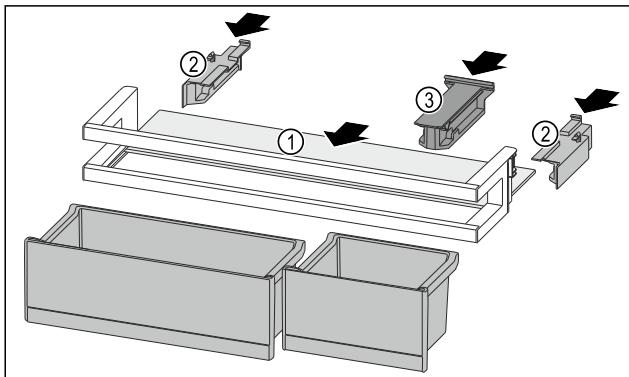

Fig. 119
- ▶ Push the shelf Fig. 119 (1) into the side recesses.
- ▶ Insert the side parts Fig. 119 (2).
- ▶ Insert the holding part Fig. 119 (3).